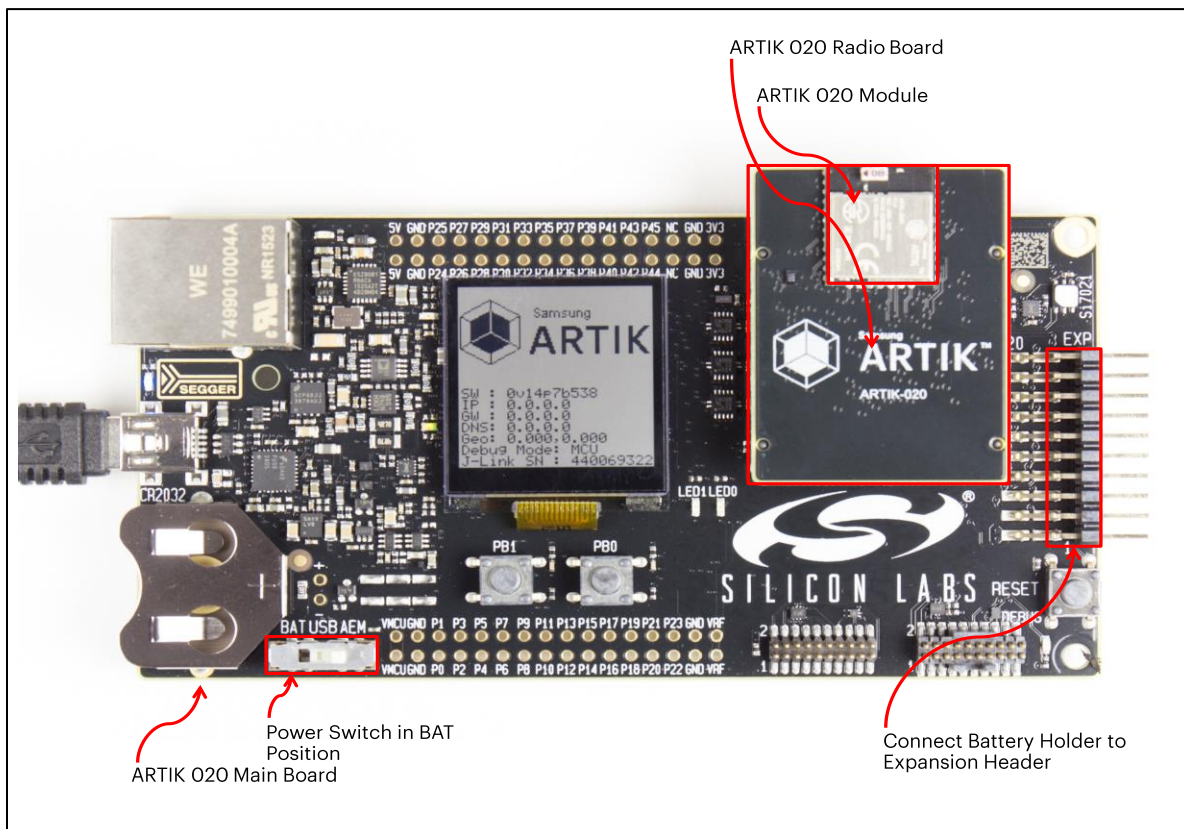

Figure 11. Battery Holder Connection
*Figure 11* explains the situation.